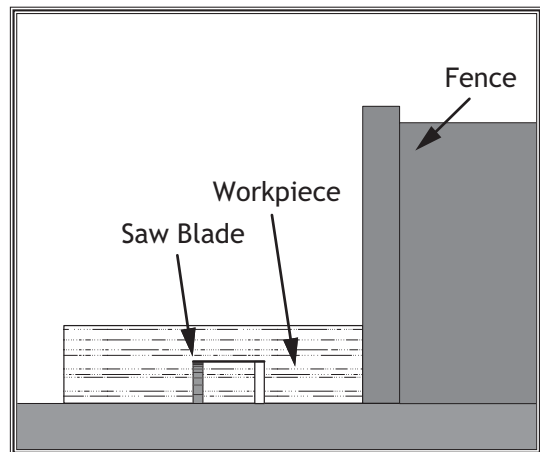

Figure 81. Single-blade dado second cut.
8. Re-adjust the fence so the blade is aligned with the other edge of the dado channel (**Figure 81**).